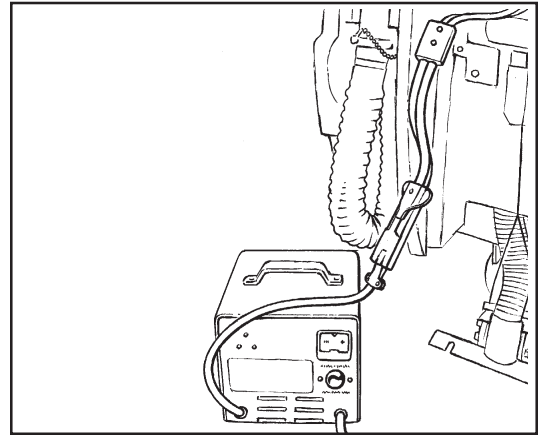

Figure 14B
5. Connect the DC connector on the charger to the battery pack connector. See figure 14B.